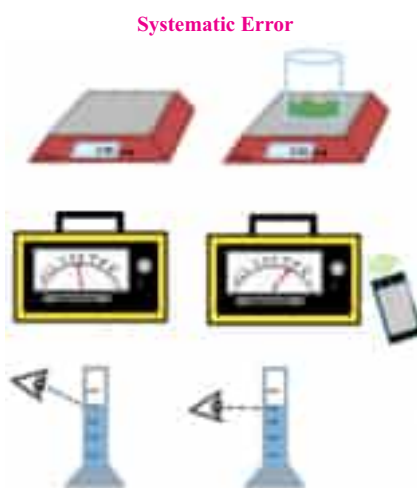

Figure 1.5
**Systematic errors are errors that have a clear cause and can be eliminated for future experiments as shown in fig: 1.5.**